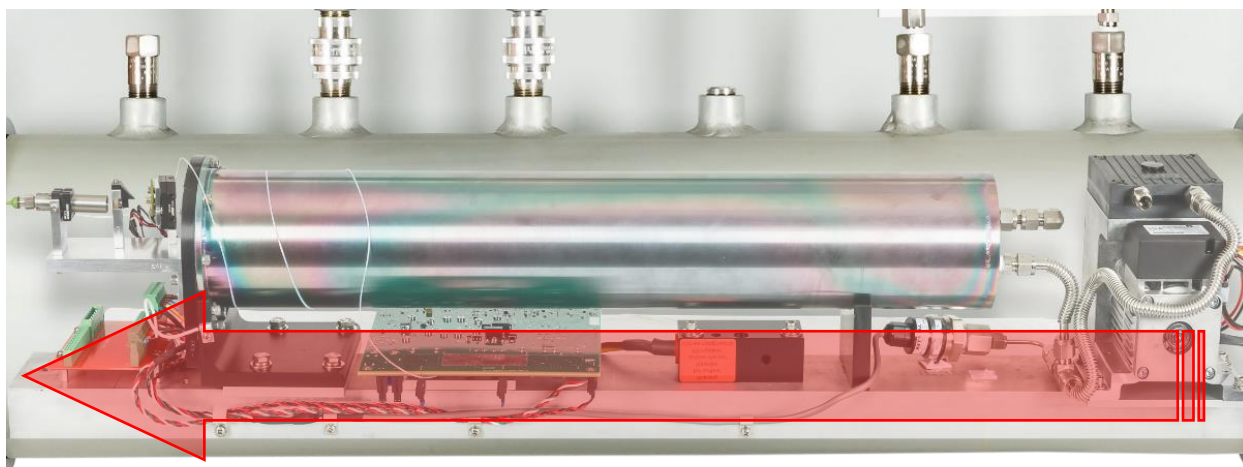

Figure 53: Final Slide Direction
13. Carefully slide the component rail in the opposite direction until it is completely extracted from the enclosure as indicated in Figure 53. Use caution to avoid any tubing or wiring that may be obstructing the slide path.